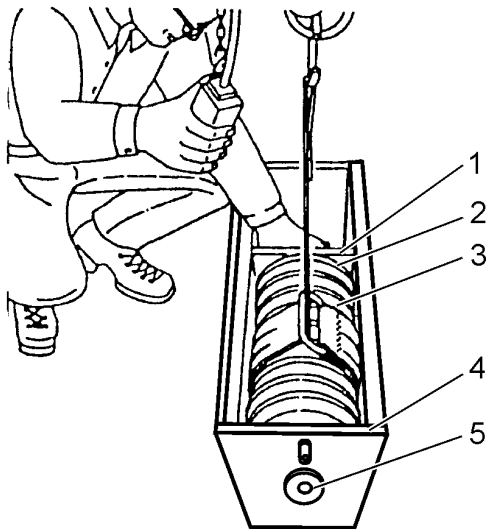

Fig. 14.51. Position Spring into Coffin
1. Position spring (3, Fig. 14.51), bolt end towards access hole (5), into coffin (4). Center spring (3) in coffin (4) and place well oiled sliding plate (1) up against spring rear retainer (2).